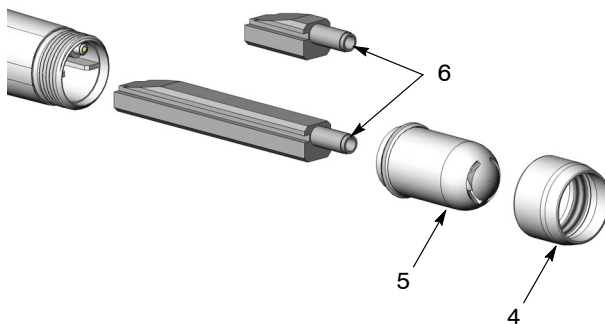

Figure 2 Removing Nozzle and Powder Tube
2. Pull the stiff powder tubing out of the spray gun adapter (2).
3. Remove the lock knob and grip ring (3) from the stiff powder hose. Keep the lock knob for the re-use with the flexible powder tubing. Make sure the O-ring is installed in the lock knob. The grip ring can be discarded.
4. See Figure 2. Remove the retaining nut (4) and nozzle (5) from the end of the spray gun.
5. Pull the powder tube (6) (short or long, depending on gun model) from the spray gun and discard it.